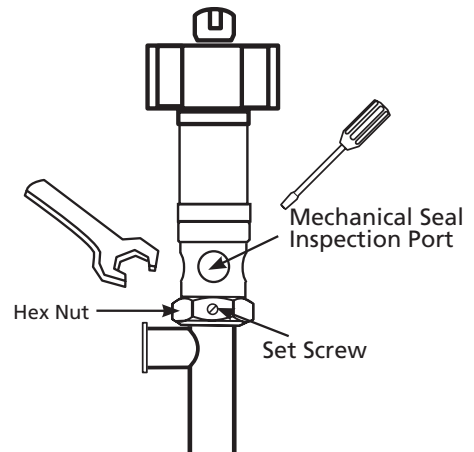

Figure 5
2. Loosen set screw on side of Hex Nut (see Figure 5).
3. Place a screwdriver (or similarly shaped object) in the mechanical seal inspection port (see Figure 5).
4. Use a large wrench to loosen the Hex Nut while simultaneously holding the screwdriver in the seal inspection port (see Figure 5).
- Tighten the Hex Nut on the pump body to the Bearing housing. Use screwdriver (or similarly shaped object) in the mechanical seal inspection port (see Figure 5, page 23).
- Use a large wrench to tighten the Hex Nut while simultaneously holding the screwdriver in the seal inspection port (see Figure 5, page 23).